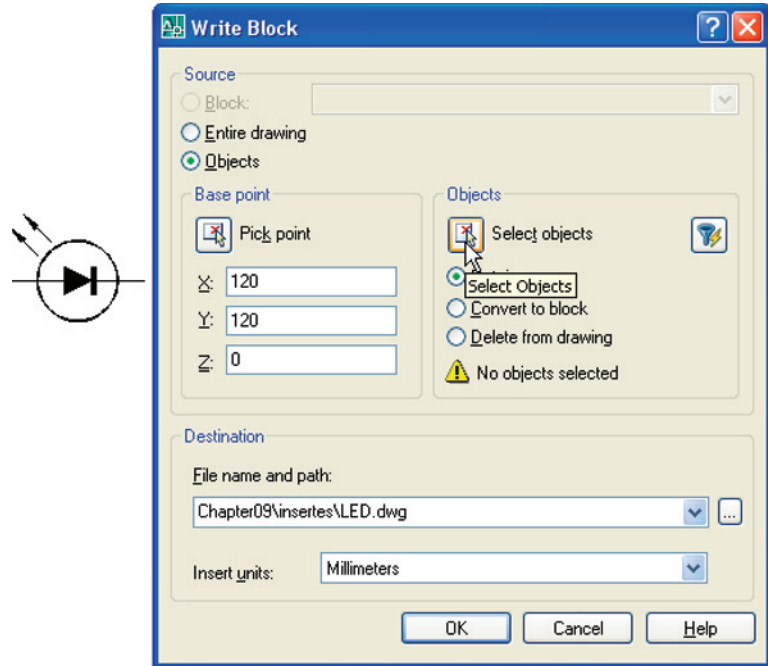

Fig. 9.20 Example – **Wblock**
Example – wblock (Fig. 9.20)
1. Construct a light emitting diode (**LED**) symbol and *enter w* at the command line. The **Write Block** dialog appears (Fig. 9.20).